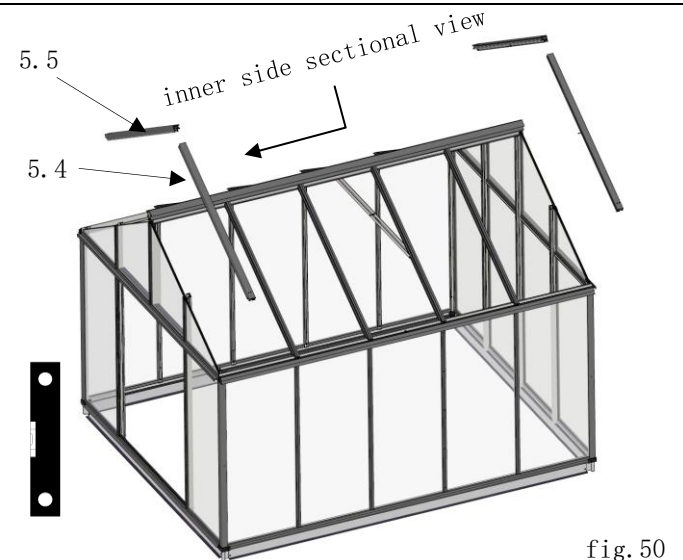

fig. 50
- place the verge profile (item 5.4/5.5) on the connector of the ridge profile and slide it over the edges of the window pane into the ridge rebate (item 9.5). (fig. 50)
- the work steps are repeated for the other verge profiles. (fig. 50)